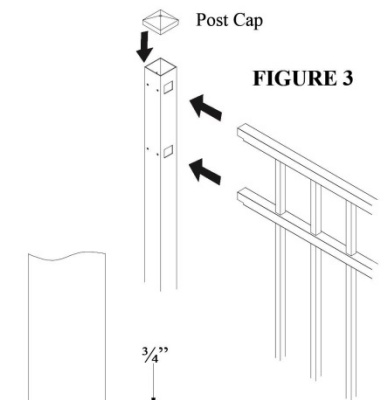

FIGURE 3
1. Working out from where the gates are installed slide a section of fence into the gate post holes and into the next post. See Figure 3. Fence sections must be inserted entirely into the post to meet code.
5. Use a rubber mallet to drive the post caps onto the posts. Be careful not to damage the post or caps. See Figure 3